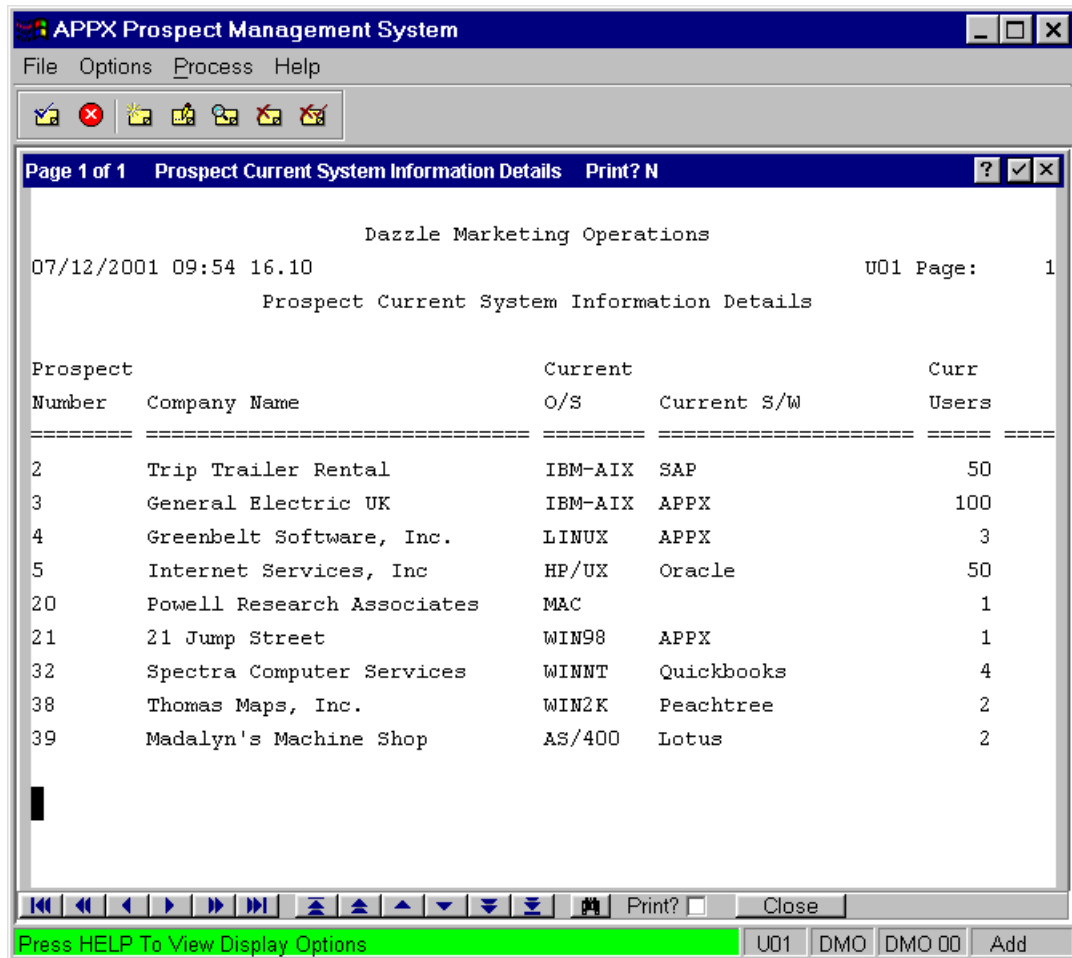

Figure E4.18 – Report On-Screen Display
- Since you checked the Print On Screen? box the report is displayed on the screen (*Figure E4.18*). Your record groupings may differ depending on the data that you entered for each Prospect's Current System Setup information.